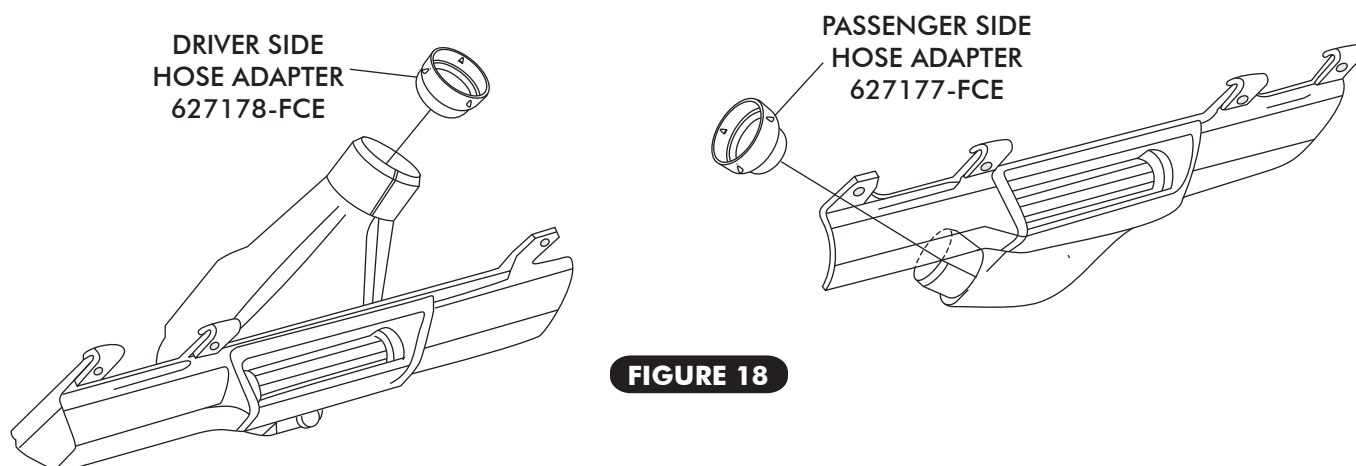

FIGURE 18
- ☐ INSTALL HOSE ADAPTERS AS SHOWN IN FIGURE 18, BELOW.